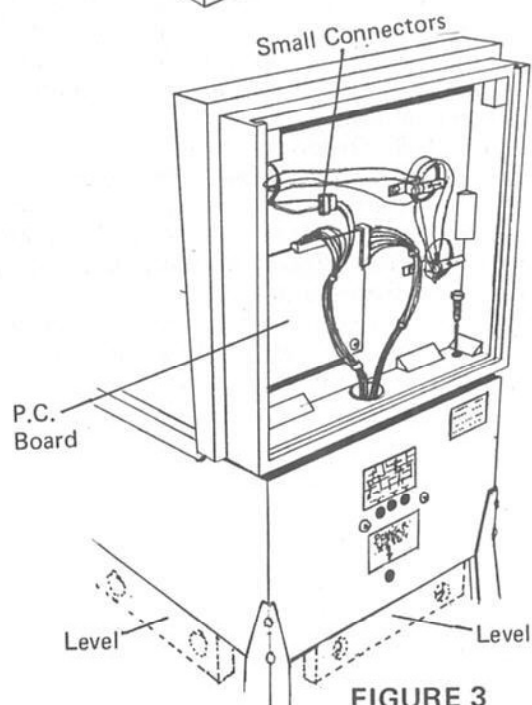

FIGURE 3
5. Level the unit by placing a level along the bottom edge of the lower cabinet (Figure 3). Adjust the leg levelers up or down as required.
8. Position the upper cabinet on top of lower cabinet as shown in Figure 3.
9. Reach down inside of lower cabinet and retrieve the two (2) wiring harness assemblies. Route the two wiring harness assemblies through the 3" hole in bottom panel of upper cabinet as shown in Figure 3.
10. Plug in the two wiring harnesses to the P.C. Board as shown making sure that the metal tabs in the harness connector are in contact with the metal strip side of the P.C. Board. Connect the two small connectors as shown. (Figure 3).
11. Secure the upper cabinet to the lower cabinet as shown in Figure 3 with Hex Head Bolts, 1/4-20x1 1/4", lock washers and flat washers (2 each). Replace the back panel.